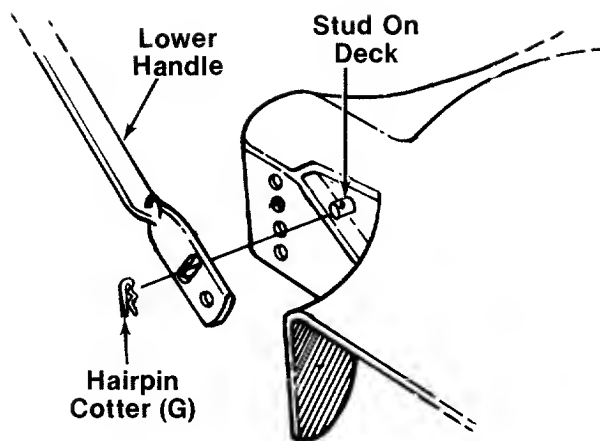

FIGURE 4.
4. Place **upper slotted hole** of lower handle (K) over studs located in front of each rear wheel. Secure with hairpin cotter (G) provided in hardware pack. See figure 4.
Figure 4 is shown with the rear wheel removed for clarity. It is not necessary to remove wheel for handle assembly.